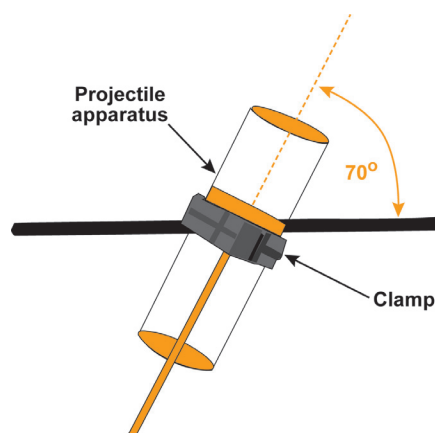

Figure 11
- ❑ 4. Adjust the projectile apparatus for a 70° angle to the long crossbar. See Figure 11.